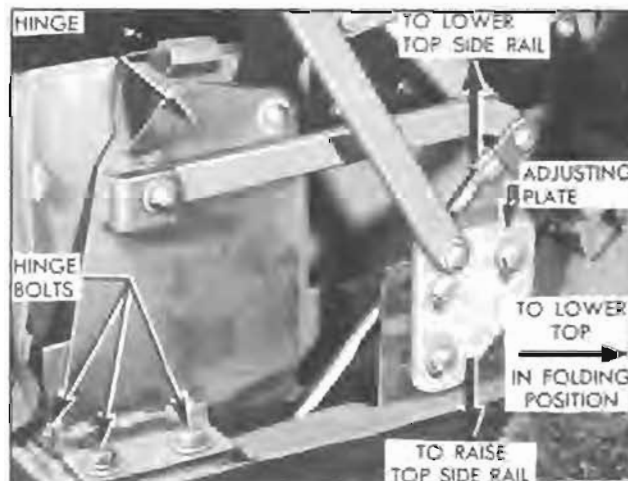

Figure 13-49—Top Adjusting Plate and Top Bow Hinge in Rear Quarter
3. Loosen the three attaching bolts at top adjusting plate in rear quarter on side to be adjusted. See figure 13-49. Move adjusting plate straight downward to raise the roof side rail, or move plate straight upward to lower roof rail. **CAUTION:** Do not move adjusting plate forward or rearward since the folded position of top will be affected.
If the top does not contact the bumper on each side of top compartment when it is down in folded position, loosen the three attaching bolts at top adjusting plate in rear quarter, move plate straight rearward and tighten bolts. See figure 13-49. **CAUTION:** *Do not move plate vertically because this will affect the position of top roof side rail in relation to top of door and rear quarter windows.*
If the weatherstrip does not fit closely enough to the curved rear end of a quarter window, a limited adjustment may be obtained by removing weatherstrip and retainer and placing a waterproof cardboard shim between retainer and the top rear quarter rail. Another method of adjustment is to shift the top bow hinge which is mounted on the body in the rear quarter. By loosening the hinge attaching bolts (fig. 13-49) the hinge may be moved forward or rearward as allowed by oversize bolt holes in hinge. This adjustment also may be used if insufficient clearance exists between rear quarter window and the weatherstrip.